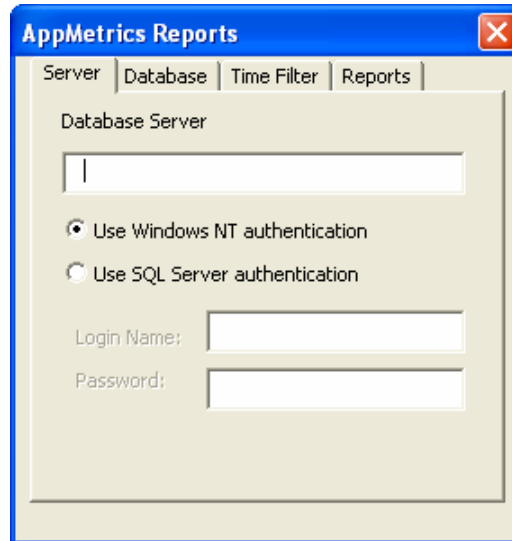

Figure 13
3. First input the machine name of your team's AppMetrics Manager in the **AppMetrics Manager Machine** field of the **Manager** tab (see Figure 13).